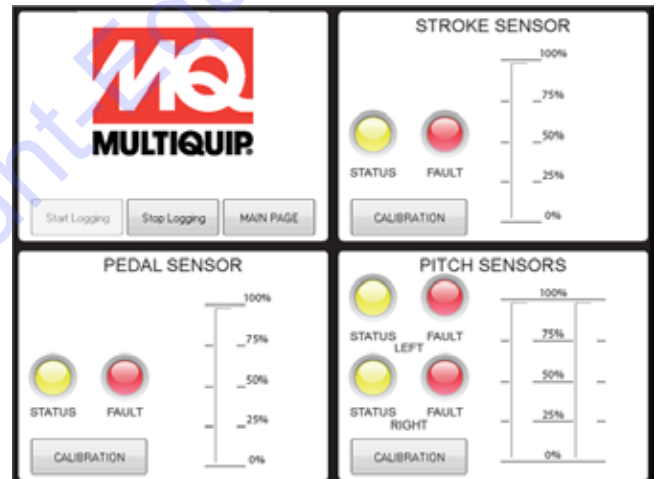

Figure 34. Calibrate Stroke Sensor
- Click “Calibration” button in STROKE SENSOR section (Figure 34).